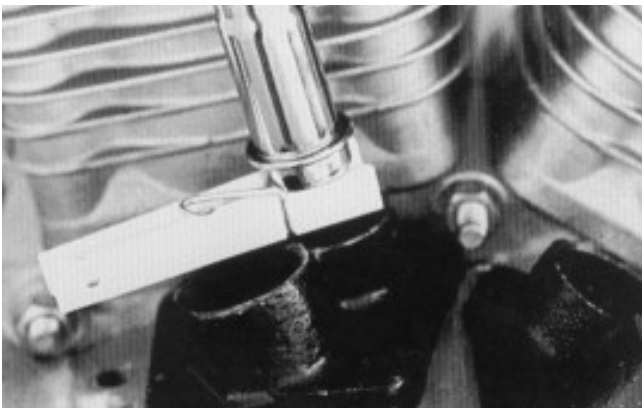

Fig. 1
2. Place the rear tappet guide into the case and insert rear intake tappet into the guide from the bottom. Screw guide in place and let tappet rest in the case. Place intake pushrod, with cover and O-rings in place, into guide. Using spring clip from Crane Cam and Pushrod Installation Tool Kit, hold pushrod and cover up and centered (Fig. 1). Insert exhaust pushrod and cover in guide and hold it up and centered with clip. Now insert exhaust tappet up into guide from bottom.